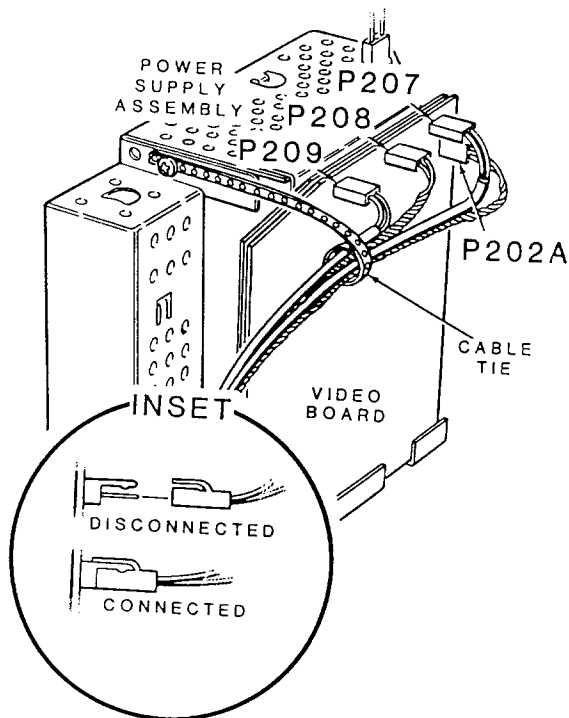

Figure 3-9. Disconnecting the CRT Drive Board Cables
1. Remove the CRT drive board from the neck of the CRT and disconnect connectors P202A, P207, P208, and P209 from the video board, as shown in Figure 3-9. During reassembly, be sure that the connectors are fully mated, as shown in the inset of Figure 3-9.